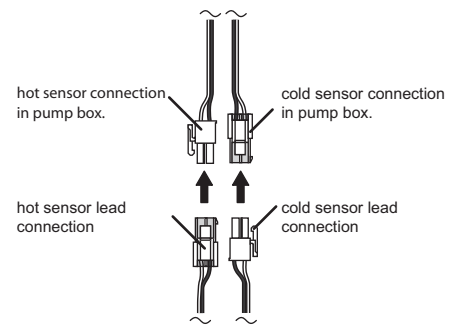

Figure 39 - Temperature Sensor Leads
- Run the lead down the solar return pipe and connect it to the connection within the pump and controller assembly as shown in the diagram. Ensure the lead is protected from light. **Figure 39 - Temperature Sensor Leads.**
1. Ensure hot and cold sensors are connected as shown **Figure 39**.